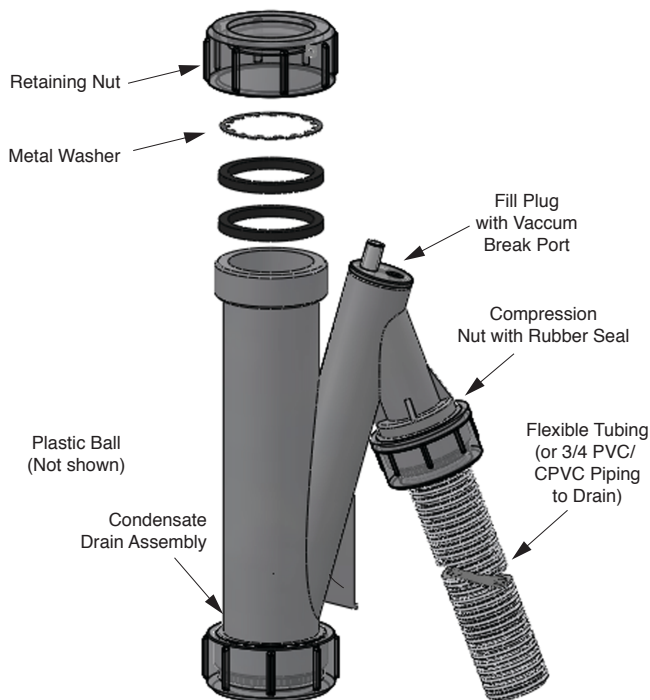

Fig. 14 - Condensate Drain Assembly
1. Locate the condensate drain assembly and ensure the metal washer is installed as shown in *Fig. 14 on page 28*.